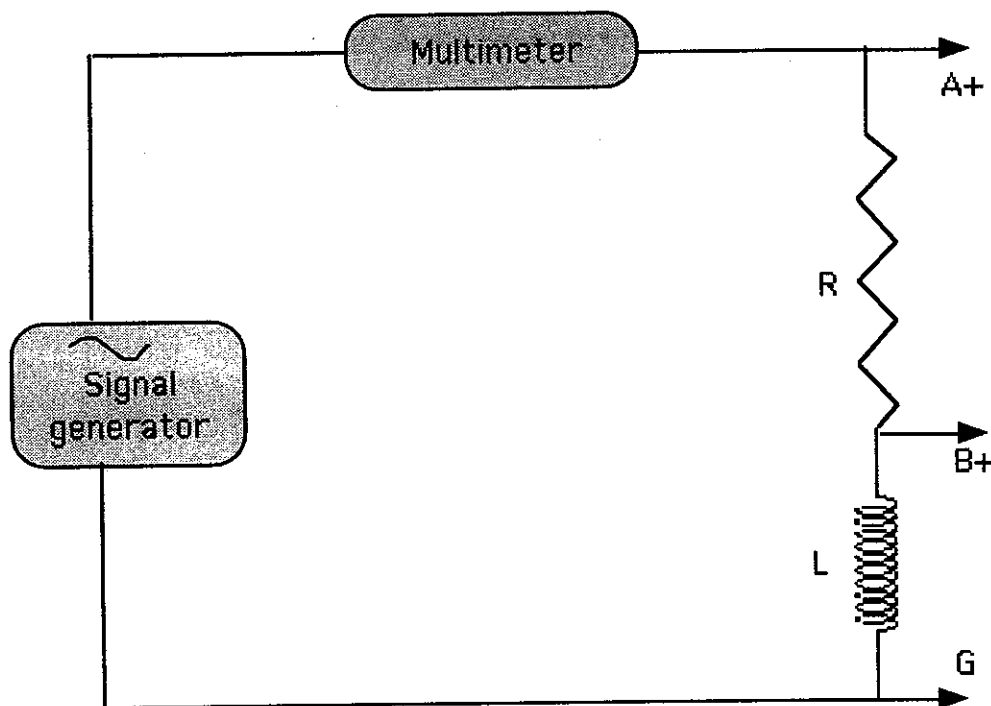

Fig. 9.8a
- (a) Make the circuit as shown in Fig. 9-8a. Do not connect the multimeter in the circuit. Switch on the signal generator. The sine wave from the signal generator provides the external AC voltage of suitable V_E and f .
- (e) Set the multimeter to read AC current and insert it in the circuit as shown in Fig. 9-8a. Record the value of the current (I) in the circuit. Make sure that the current remains constant throughout the experiment.